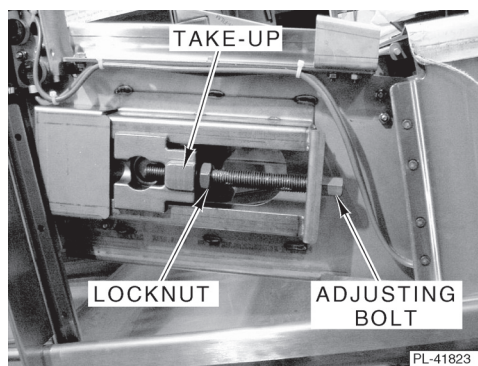

Fig. 43
Align the conveyor sprockets or tighten the tension on the conveyor by turning the adjusting bolt on the take-up units (Fig. 43). Alignment can be gauged by centering the large diameter hub of the conveyor rollers on the conveyor tracks.
- If additional tension is needed on the conveyor (after it has been centered), tighten both of the take-up units the same amount. After the proper conveyor tension is achieved, tighten the locknuts on the take-up units on both sides (Fig. 43).